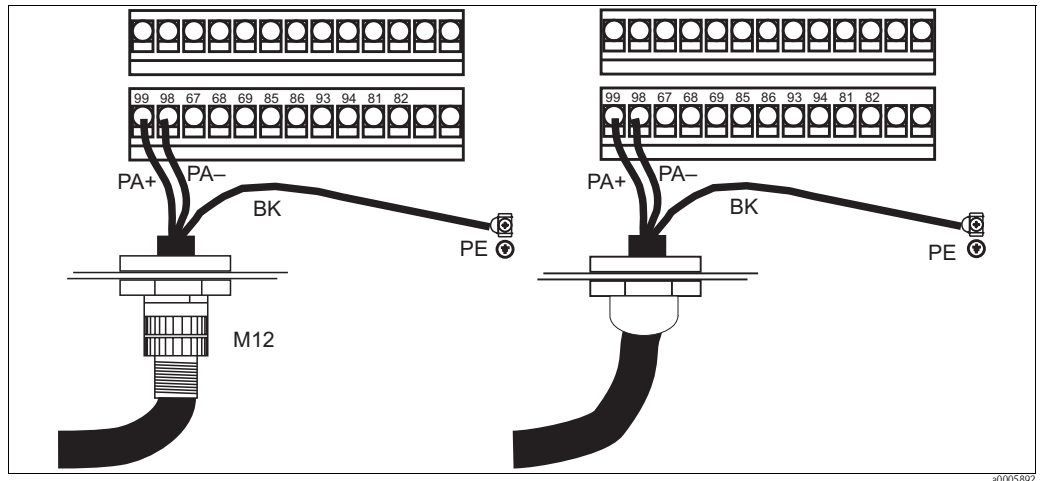

Fig. 3: PA device electrical connection
4. **Cable connection for PA devices:** Connect the cable wires of the bus cable in accordance with Fig. 3 to the terminal block. Mixing up the polarity of the PA+ and PA- connections does not have any influence on operation. The bus cable can be connected to the PA device via the Pg cable gland or an M12 plug.